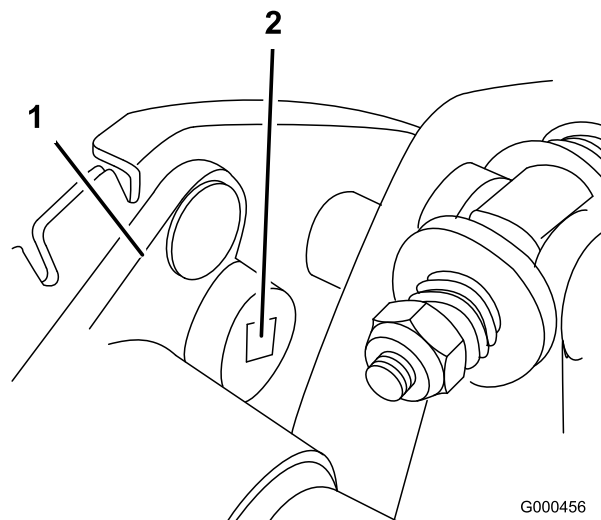

Figure 35
- B. Using a $3/8$ inch drive torque wrench, rotate the bearing housing with 35-40 in.-lb. of torque to set belt tension (Figure 35)